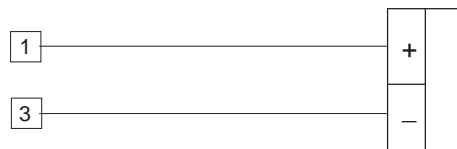

Fig. 5.5
- Provide connections between calibrator and instrument under test as shown in Fig. 5.5.
- Set the calibrator to 60.000 mV (see Fig. 5.5).